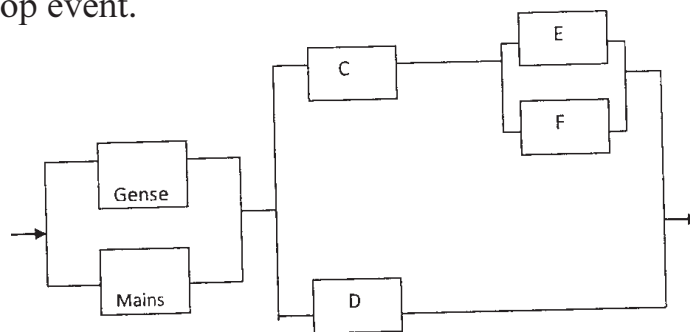

Fig.1
b) Construct a fault tree from Fig. 1 such that the top event is a system failure and component failures are basic events. If $\Pr\{A\} = \Pr\{B\} = 0.9$, $\Pr\{C\} = \Pr\{D\} = 0.8$ and $\Pr\{E\} = \Pr\{F\} = 0.75$, compute the probability of the top event. [10]